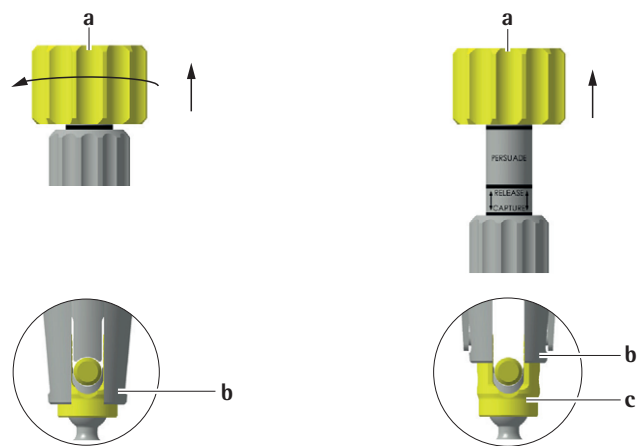

Fig. 34
- ▶ To disengage the persuader from the screw head, turn the golden knob **a** counter-clockwise as far as possible (until the second line can be seen) and pull it up to the third line, see Fig. 34.